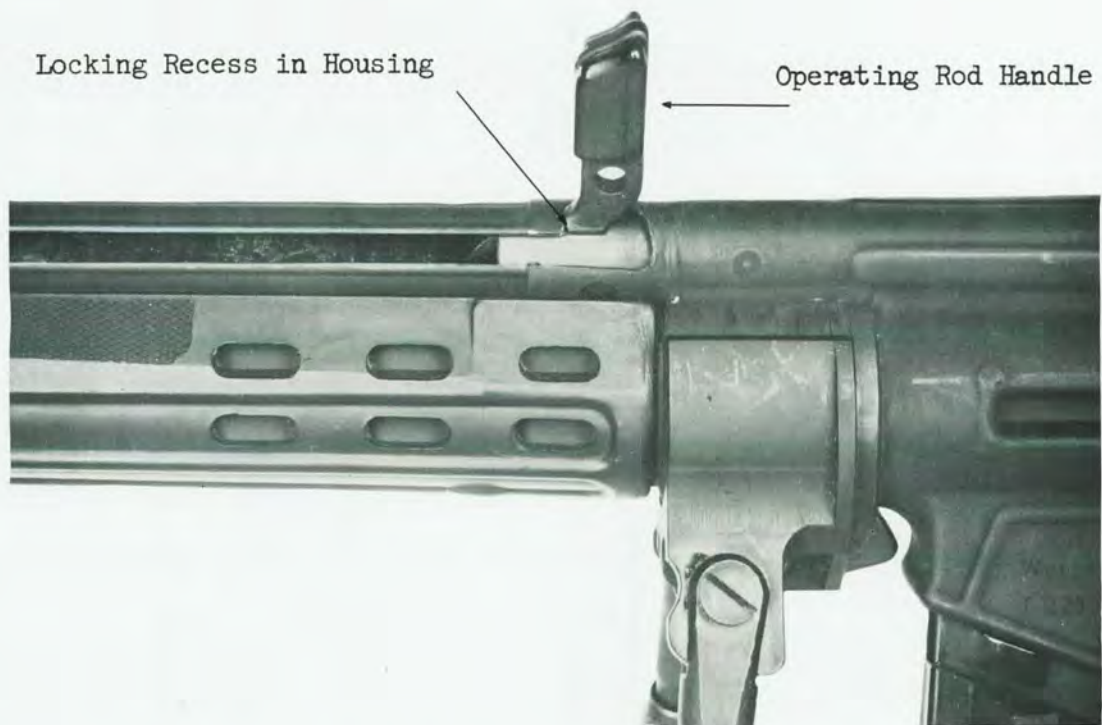

Fig. 4 Operating Rod Assembly
a. With the selector placed on "Safe," draw the operating rod rearward engaging it in the locking recess of the housing (fig. 4). Insert the loaded magazine into magazine well, front end first. Pull magazine rearward and upward until the magazine catch locks magazine into position. After first allowing the operating rod to snap forward and then positioning the selector, the weapon is ready to fire.